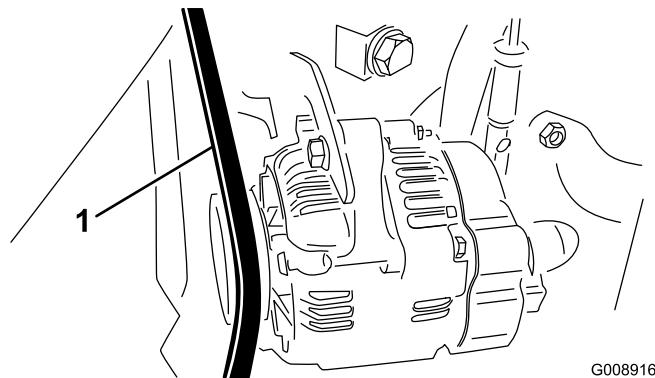

Figure 69
2. Check the tension by depressing the alternator/fan belt midway between the alternator and crankshaft pulleys with 30 N·m (22 lb) of force (Figure 69).